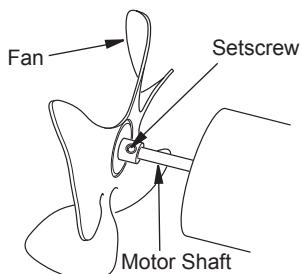

Figure 6 - Fan, Motor Shaft and Setscrew Location
4. Replace fan on motor shaft. Make sure setscrew is touching back of flat surface on motor shaft (see Figure 6).